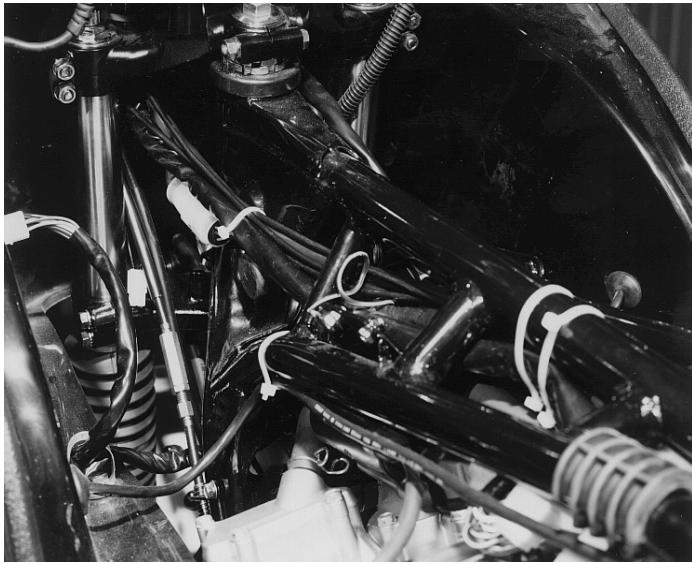

Figure 7-5: Triangular Frame Assembly
5. Refer to Figure 7-5 and route the cables through the center of the triangular frame assembly to the area at the rear of the control unit. The cable may be routed along side existing cables and secured to them with cable ties.